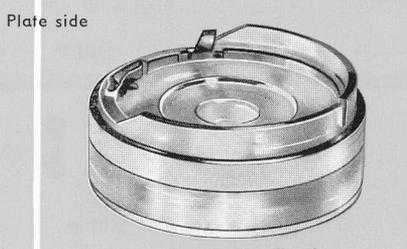

Fig. 9
- Plain feed ring, fig. 9 (for complete movement).